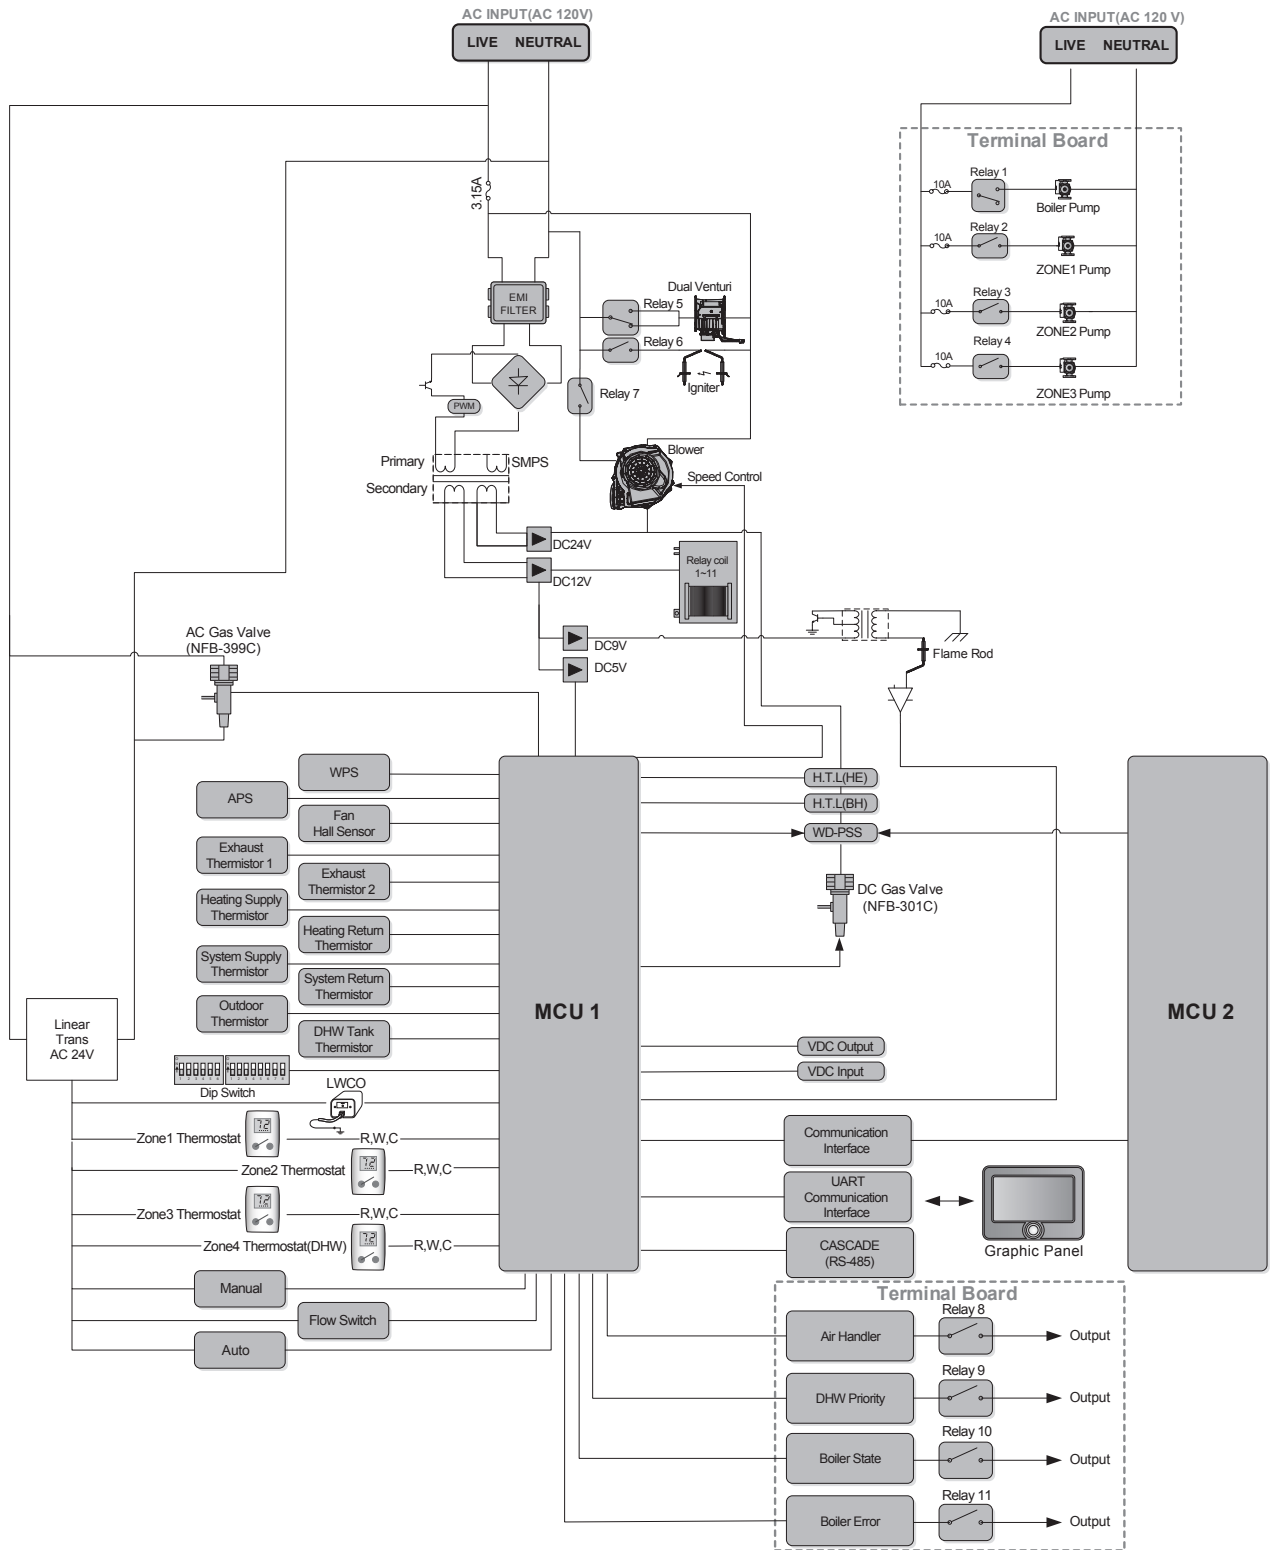

**Figure 11. Proper Placement of Gas Conversion Labels**
- 13. Once the CO2 or offset values have been confirmed, apply the included conversion stickers to show that the appliance has been converted to propane gas or high altitude. Place these labels adjacent to the rating plate as shown in Figure 11.